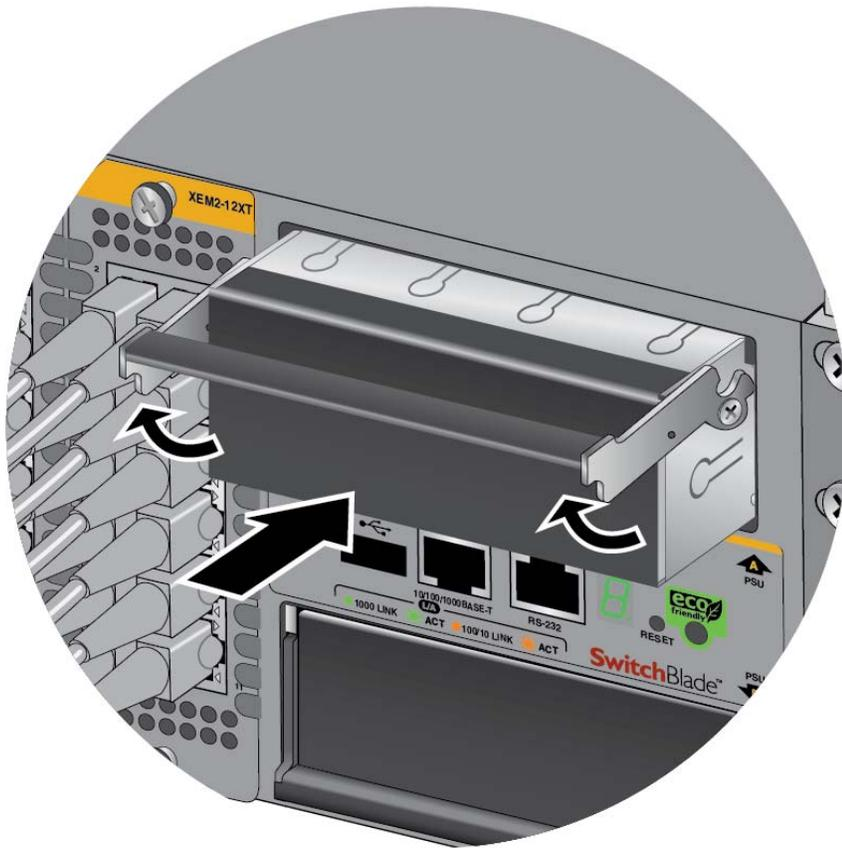

Figure 121. Installing the Blank Power Supply Slot Cover
13. Place the locking handle on the blank power supply slot cover in the up position and slide the cover into the empty power supply slot. Refer to Figure 121 on page 200.